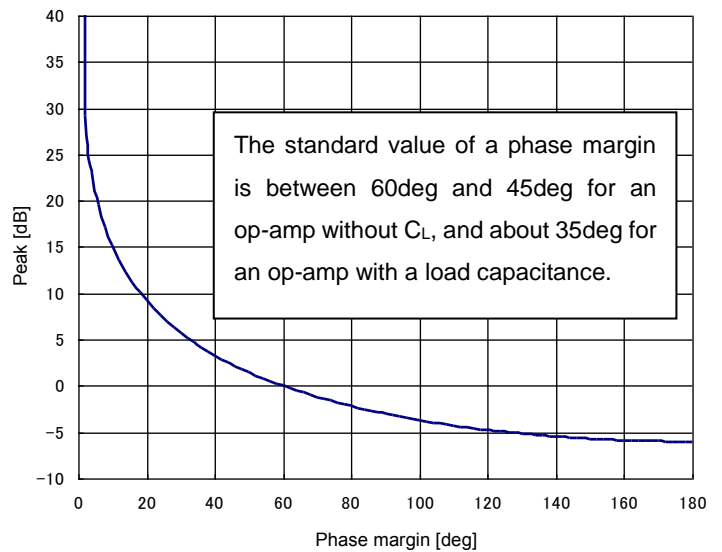

Figure 15. Result of gain peak calculation
Figure 15 shows the result of the calculation when the following values are substituted in the above equations.
As the result shows in Figure 15, the phase margin of 60deg corresponds to a peak of 0 dB, giving an ideal condition.
- By measuring the frequency characteristics between the input and output and checking the gain peak, the phase margin can be estimated from Figure 15 of this document.
- Figure 15 is applicable to any types of general op-amps.